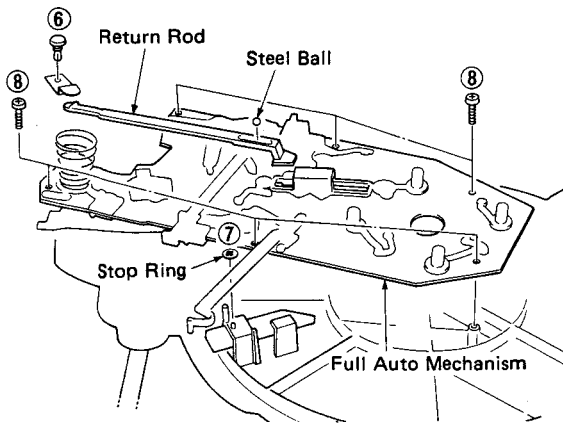

Fig. 5
- a. Remove plastic rivet (⑥) in Fig. 5 and then remove the Return Rod.
- b. Remove the stop ring (⑦) in Fig. 5.
- c. Remove 6 screws (⑧) in Fig. 5 and then remove the Full Auto Mechanism.